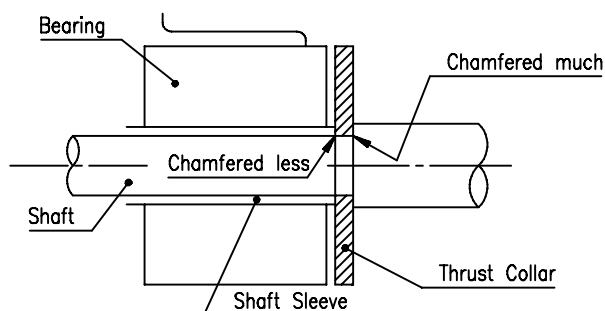

Fig. 7-21. Thrust Collar Setting
- (b) When sleeve and collar are replaced, set pin on the shaft without fail. Thrust collar shall be set on the shaft as shown in Fig. 7-21.